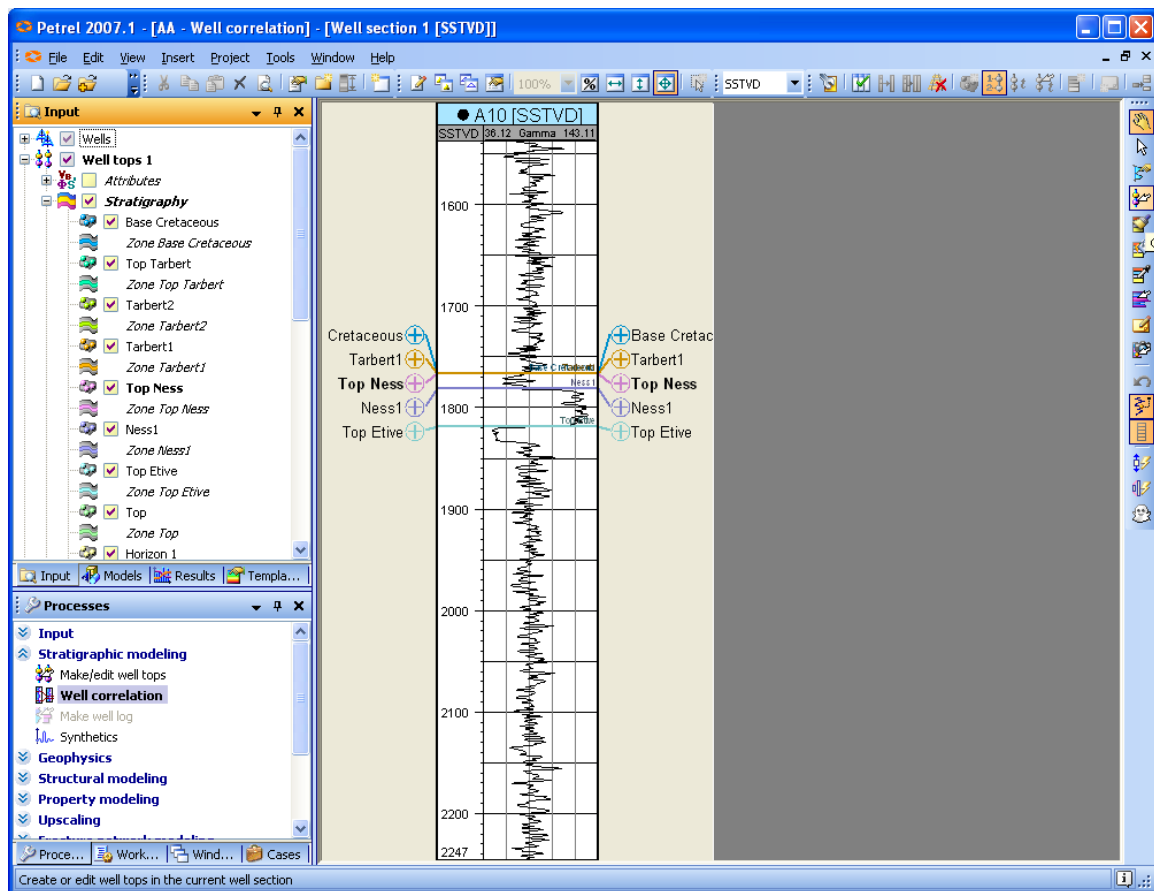

Fig. 10.23: Inserting new Well Tops in a Well Section window
3. To insert new well tops with a new name, make sure to de-activate the existing well tops as shown in Fig. 10.23.